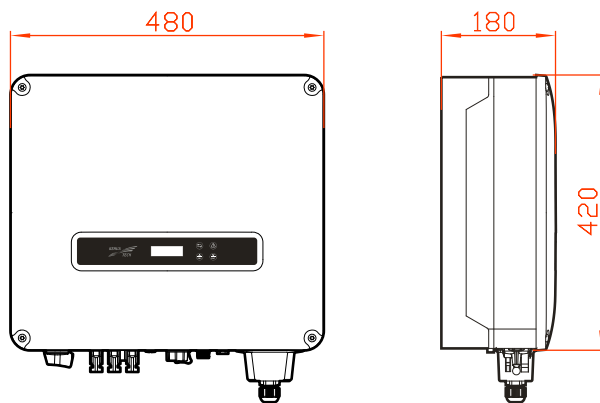

Figure3-6 Size (unit: mm)
- Step 1 Determine the installation place based on the inverter size (as shown in Figure3-6) and installation space (as shown in 3.2.3 Installation Space).